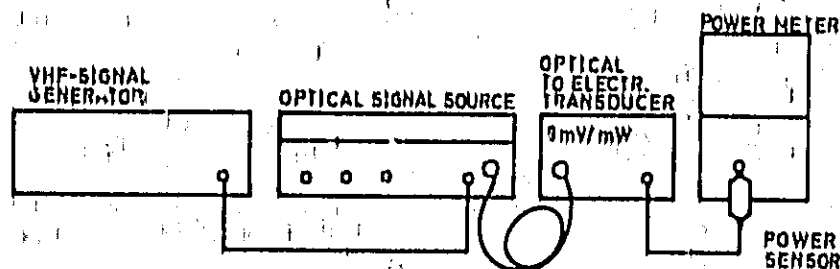

Figure 4-8. Test setup for establishing the flatness of the stimulating optical source at high frequencies.
8. Connect the equipment as shown in Figure 4-8.